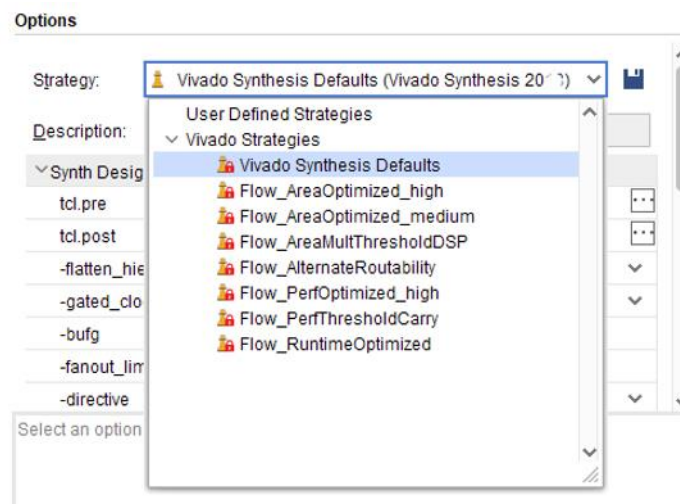

Figure 16
4. In **Options** → **Strategy** we can view and select from the drop-down menu a predefined synthesis strategy to use for the synthesis run; there are different preconfigured strategies, as shown in Figure 16; in our case, leave default options unchanged